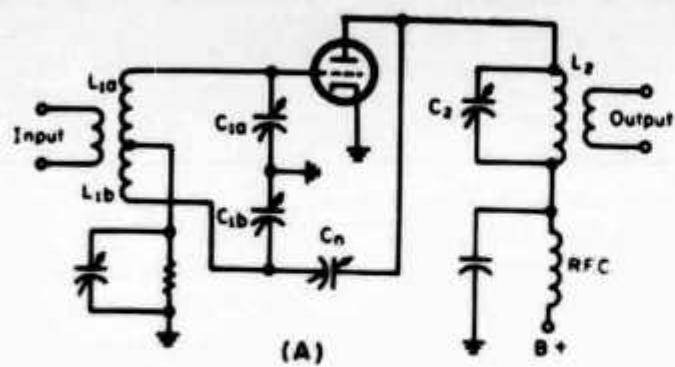
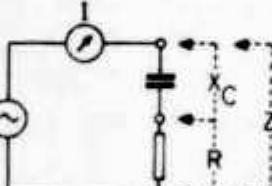

Fig. 7(A)—Circuit of a grid (Rice) neutralized amplifier and (B) its bridge equivalent.
Abb. 5
Figure 5 shows how any r.f. amplifier can be approached for plate neutralization. The
Fig. 5(A)—Circuit of a triode amplifier plate neutralized (Hazeltine) using a split stator tuning capacitor. (B) A similar circuit using a single tuning capacitor. Principle of operation is identical for both circuits.
two circuits are basically the same. Figure 5(A) uses a split stator capacitor and center tapped tank while 5(B) uses a single tuning capacitor with the center tapped tank.
Figure 7(A) and (B) shows the basic approach for grid neutralization. It is essentially the same as the plate neutralization circuit of fig. 5 except that the phase reversal circuit is in the grid. The bridge equivalent circuit shown in fig. 7(B) essentially is the same as the bridge of fig. 6. For the balance  $C_n$  must equal  $C_{gp}$  if the phase reversing transformer is 1:1.
Both the grid and plate neutralization circuits shown in fig. 5 require push pull tank circuits for phase inversion in the input or output circuit. Single ended stages can also be neutralized using a system such as shown in fig. 8, particularly suitable for pentodes. The bridge equivalent circuit for fig. 8(A) is shown in fig. 8(B).
**Widerstände:** Die Schaltglieder besitzen für den Wechselstrom einen Widerstand (Abb. 5). Der Blindwiderstand des Kondensators ist  $X_C$ , der Wirkwiderstand ist  $R$ . Der Gesamtwiderstand ist  $Z$ . In dem Gesamtwiderstand  $Z$  sind der Wirkwiderstand  $R$  und der Blindwiderstand  $X$  enthalten. Er wird Scheinwiderstand oder Impedanz genannt (latein.: impedire = hindern). Die Wechselstromwiderstände werden mit folgenden Fremdwörtern und Formelbuchstaben bezeichnet.
**Wir merken: (103):**